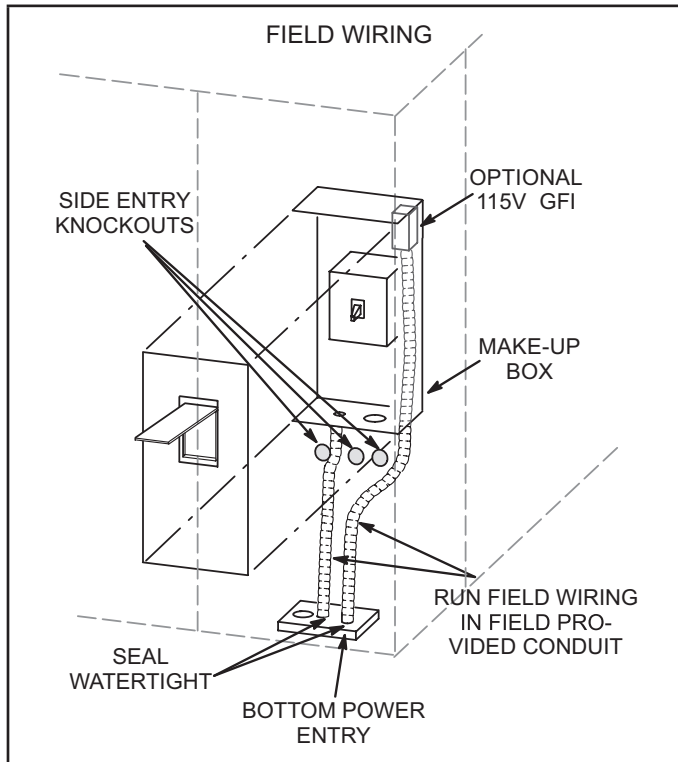

FIGURE 12
- 3 - Route field wiring in field-provided conduit as shown in FIGURE 12.